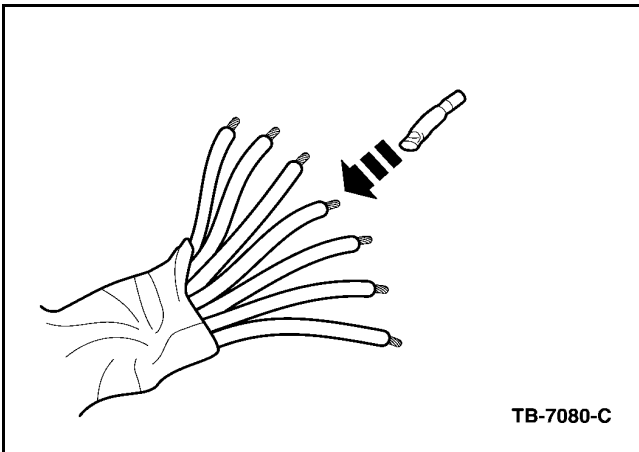

Figure 3 - Article 05-16-12
- Using dual wall heat shrink tubing, position tubing over each individual wire (Figure 3).